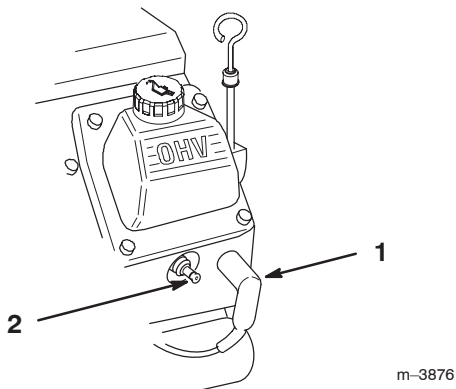

Figure 26
2. Pull the wires off of the spark plugs (Fig. 26).
3. Push the wires onto the spark plugs (Fig. 26).